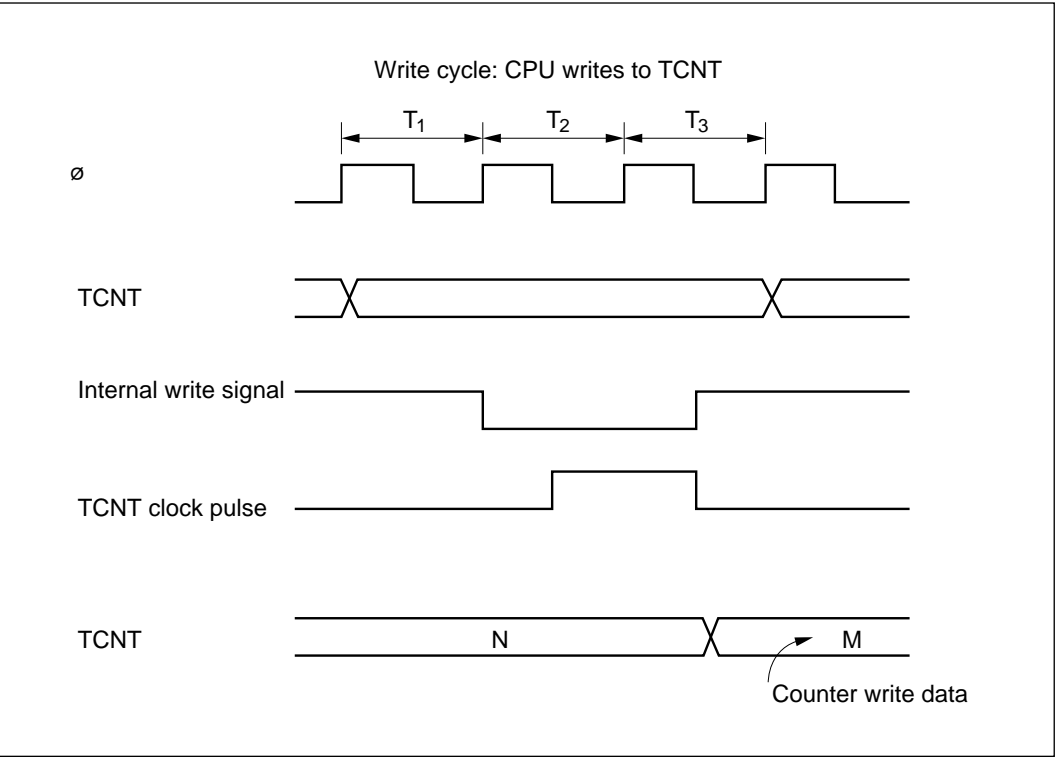

Figure 13-8 Contention between TCNT Write and Increment
(1) **Contention between Timer Counter (TCNT) Write and Increment:** If a timer counter clock pulse is generated during the T_3 state of a write cycle to the timer counter, the write takes priority and the timer counter is not incremented. See figure 13-8.